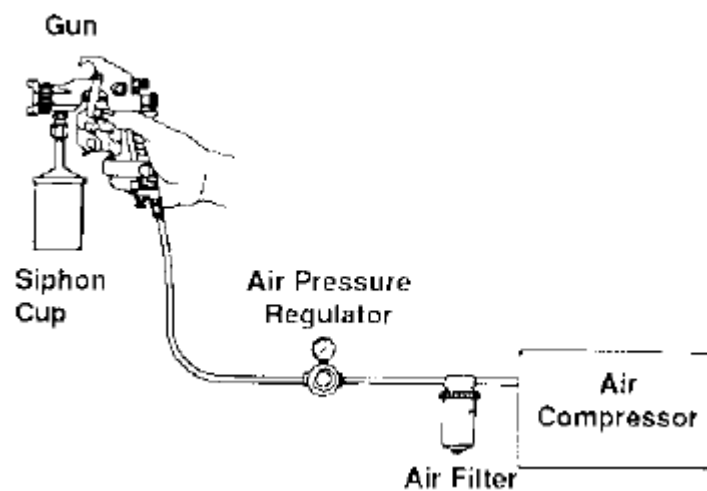

Figure 3 Siphon Feed System
2. Siphon Feed System (see Figure 3).